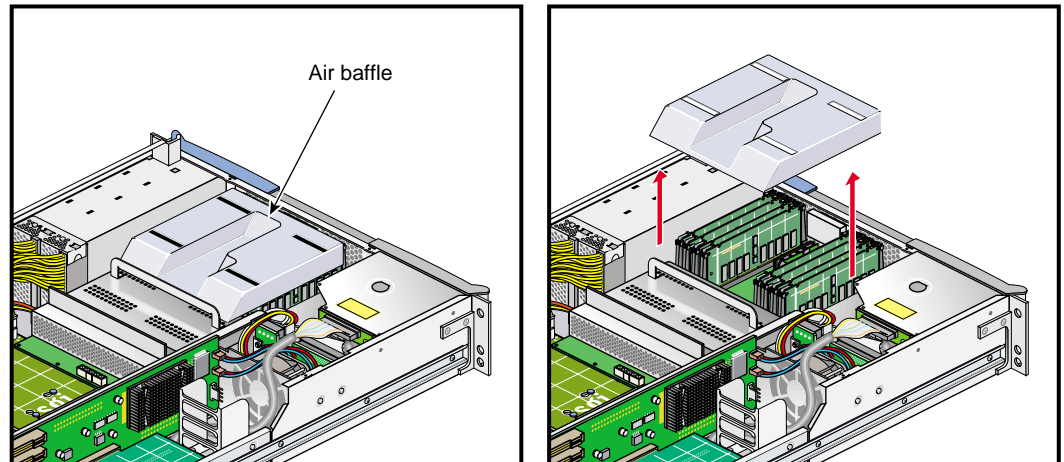

Figure 6-26 Removing the Plastic Air Baffle
6. Remove the plastic air baffle covering the DIMMs, as shown in Figure 6-26.